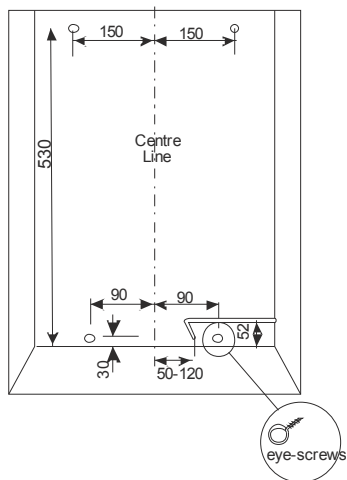

Figure 57
2. Mark out, drill, plug and fit the four cable guide brackets onto the rear wall of the fireplace opening as shown in **Figure 57**. Use 4.5mm masonry bit if drilling into masonry. Use 3.5mm bit if fitting the fire into metal flue box.
4. Install the gas supply within the opening using rigid or semi-rigid tubing allowing for rear entry into the fire box (See **Figure 57**).